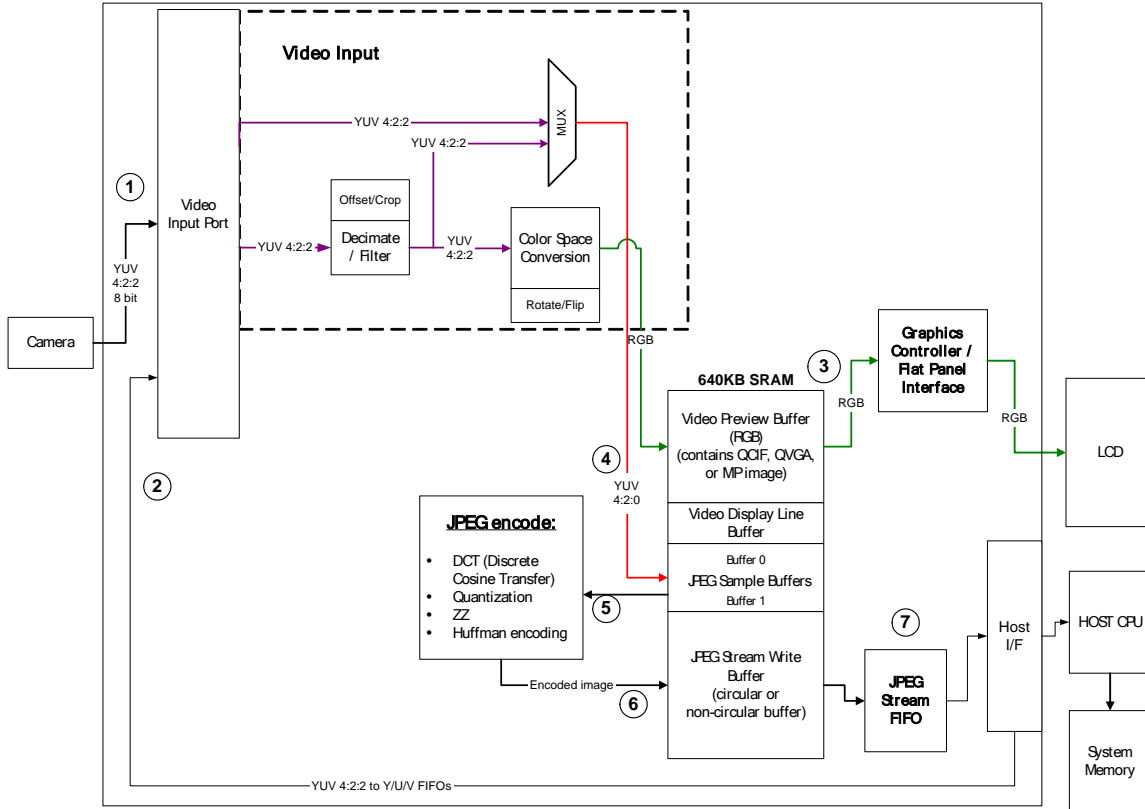

Figure 10. GoForce 4000 JPEG Encoder Data Flow
The GoForce 4000 JPEG encode process is a real-time, 'on-the-fly' encode process. As the JPEG data is encoded, it is placed in a circular buffer (the JPEG Stream Write Buffer) in the GoForce 4000 embedded SRAM (see Figure 10). If this data is not retrieved by the host quickly enough (from the JPEG Stream DMA FIFO - location 10000h - 1FFFFh), it may be overwritten by the JPEG encoder. There is no mechanism for the host CPU to 'stall' the JPEG encoder so that it can retrieve data.
Figure 10 illustrates the GoForce 4000 data flow during image preview and capture. Images can be captured at full resolution or they can be decimated to a smaller resolution (for example, MMS typically requires images to be 160X120 pixel resolution). As can be seen in the following figure, data paths exist from the Video Input (VI) unit to the JPEG encoder before and after decimation.
Please refer to the numbers in Figure 10 to understand the steps in the following JPEG encoder data flow description.